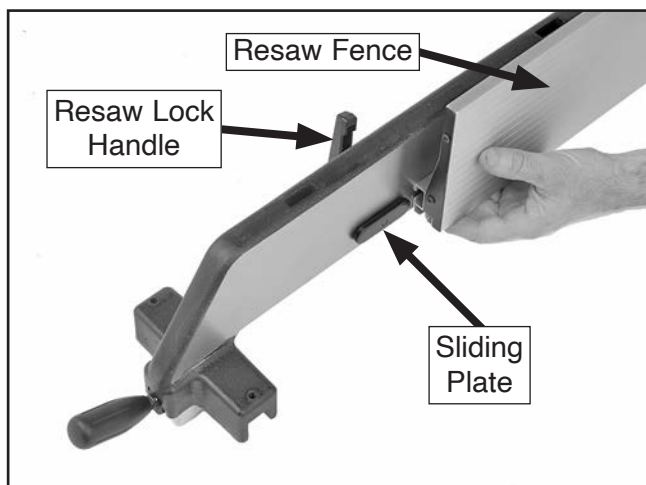

Figure 3. Example of attaching resaw fence to standard fence.
5. Install resaw fence lock handle (with 8mm washer and sliding plate) onto fence, then slide resaw fence over sliding plate as shown in **Figure 3**.